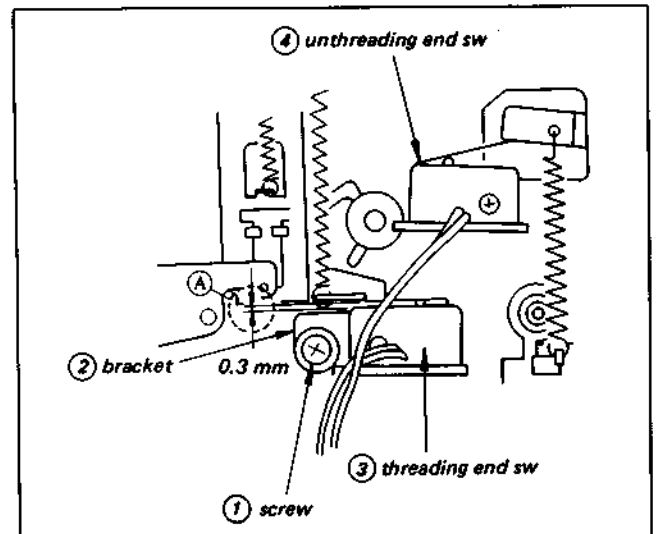

Fig. 3-28. Position adjustment of microswitch (2)
- 4) Loosen screw ① and adjust bracket ② so that the clearance at section (A) is 0.3 mm, and tighten screw ①. (See Fig. 3-28)
- 5) Turn the threading ring slowly by hand until it reaches threading completion state. Confirm that the clearance at section (A) is not lost, and that the threading end switch ③ goes on when threading completion state is reached.
- 6) In the event that the clearance at section (A) is lost while threading, loosen screw ①, and adjust the bracket ② so that the clearance is maintained, then tighten screw ①.
- 7) At the threading completion state, confirm that the unthreading end switch ④ is on.
- 8) Turn the threading ring slowly by hand until the unthreading completion state is reached, and confirm that the unthreading end switch ④ is released for the first time just before unthreading completion.